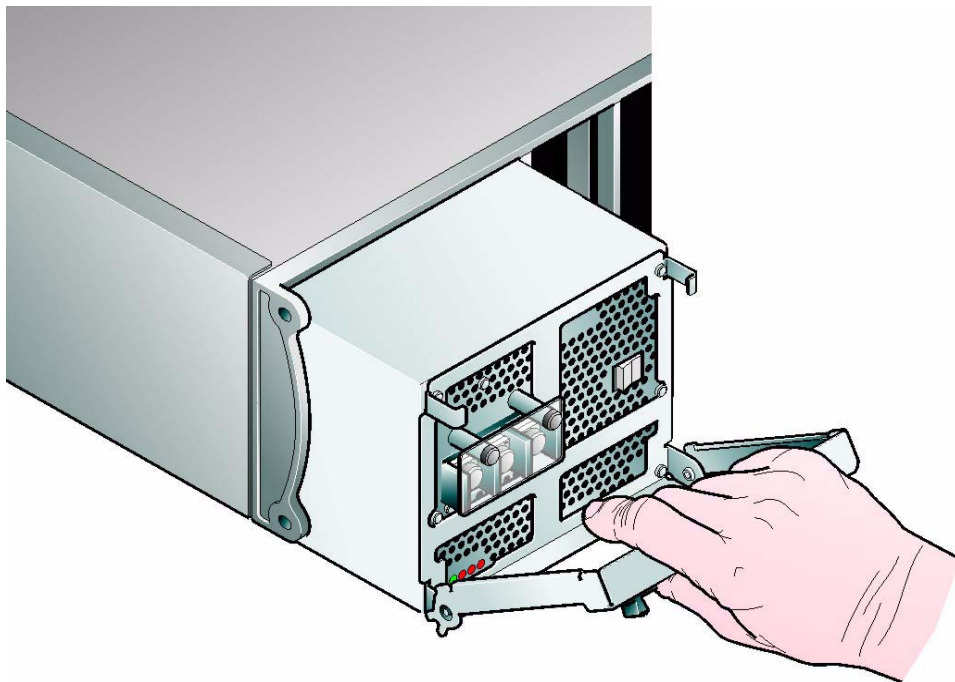

Figure 4-6 Removing/Inserting a -48V Power Supply/Cooling Module (3)
- 7 Grip the handle and withdraw the module.(see Figure 4-6).
- 3 Cam the module home by manually closing the PSU handle (see Figure 4-6). A click should be heard as the handle latches engage (see Figure 4-40).